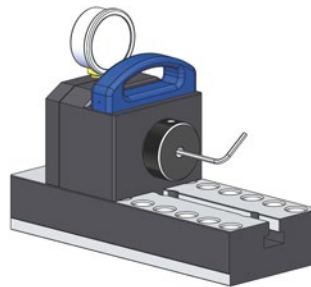

Figure 11
6. Loosen and remove the screws on the housing cover (Figure 11).